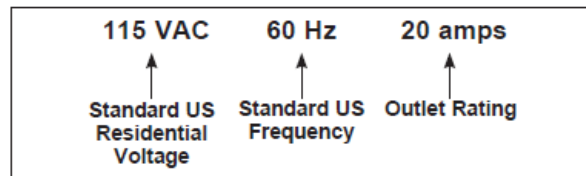
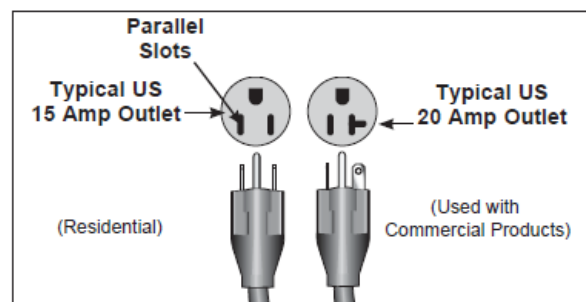

Figure 1
Figure 2
- TRUE's recommendation is to leave a 39" safety zone at rear of elliptical. The sides of the unit should be at least 20" away from the wall or obstructions. (See Fig 1)
For example, in the United States some TRUE treadmills require a circuit rated 115 VAC, 60 Hz and 20 amps. See Figure 1. However, a home typically has 15 amp outlets. In this case, contact an electrician to install a 20 amp dedicated line prior to use. See Figure 2.
- Important:** With machine still on pallet, attach handle bars to the front and rear of machine. Handle Bars will provide assistance in moving machine. Figures 1 & 2